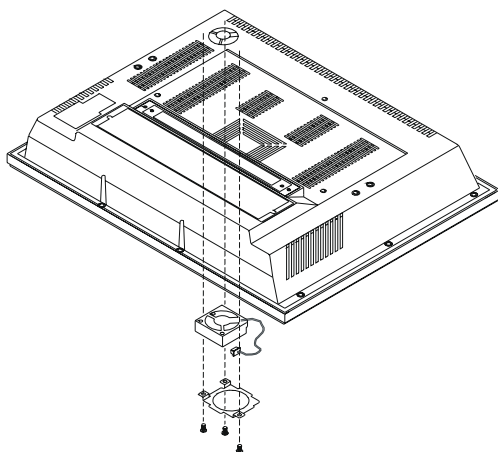

Figure 2.15: Replacing the cooling fan
3. The cooling fan is located inside the rear panel. You can remove the cooling fan by first removing the four screws (Figure 2-15).